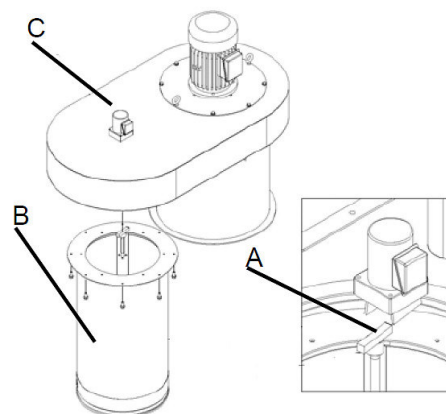

Fig. 6: Mount main housing
**Step 6:** Insert the bracket (A, Fig.6) between the filter cartridge guide and main housing and use the M8X16 hex bolts to assemble the filter cartridge (B, Fig.6) and main housing (C, Fig.6) together.